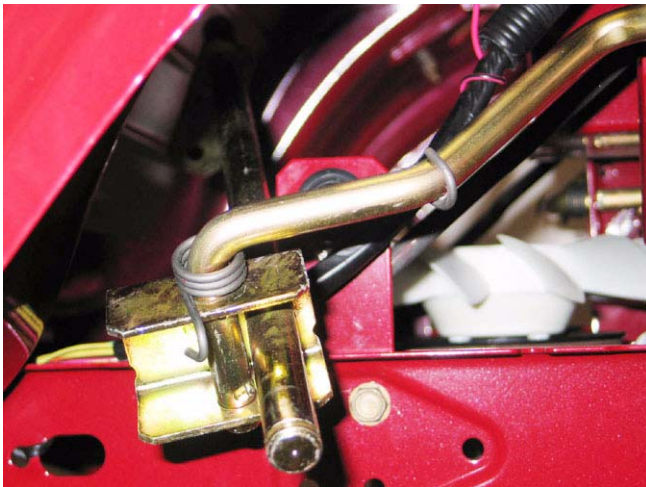

Figure 6.12
6. The control lever and cross shaft assembly can then be maneuvered out from under the fender. See Figure 6.12.